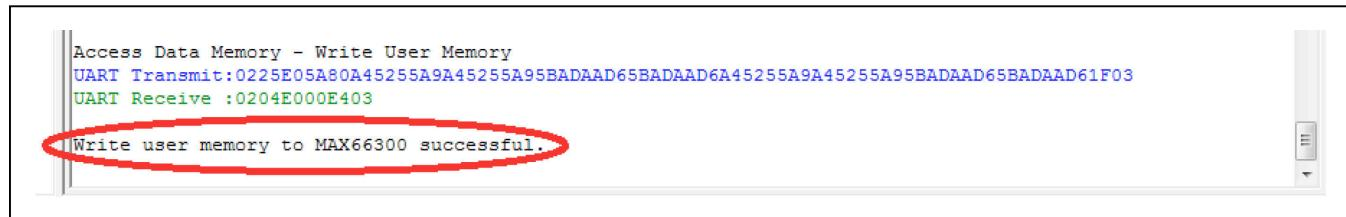

Figure 24. Confirm Write User Memory
- 20) Confirm the **Write user memory to MAX66300 successful** in the Data Log box (Figure 24).